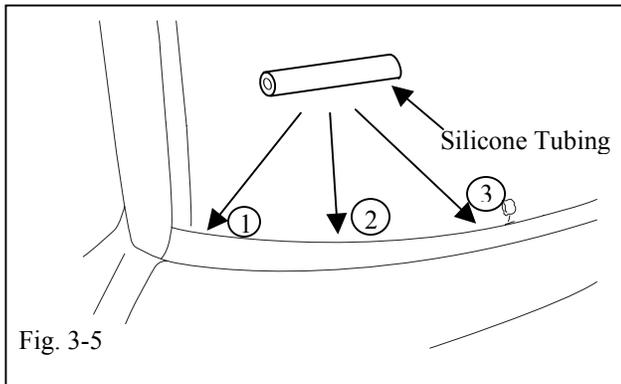

Fig. 3-5
(g) Secure the antenna wire into the gutter in 3 locations using pieces of 50- mm long silicone tubing. (Fig 3-5)
**NOTE:** Start from passenger side and work toward center as shown from 1 to 3. (Fig 3-5)